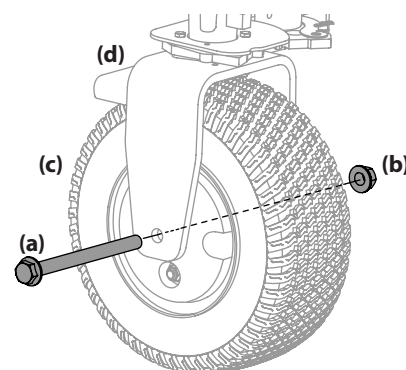

Figure 48
1. Remove the hex screw (a) and flange lock nut (b) that secures the front wheel (c) to the yoke assembly (d). See Figure 48.